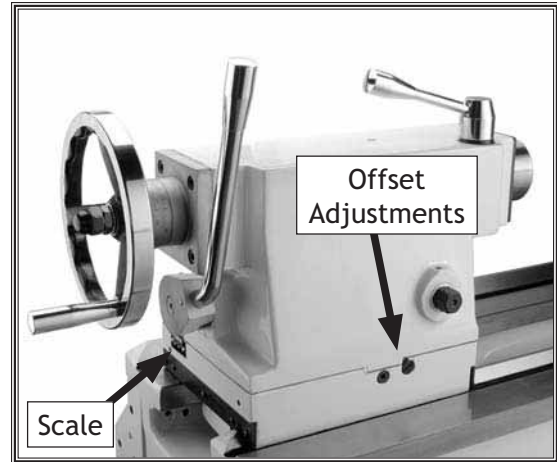

Figure 37. Right offset adjustment.
2. Alternately loosen and tighten the left and right offset adjustment screws until the desired offset is indicated on the scale (see Figures 37 and 38).